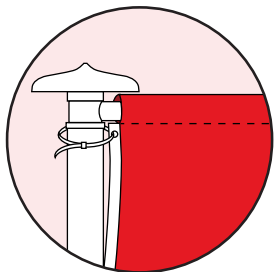
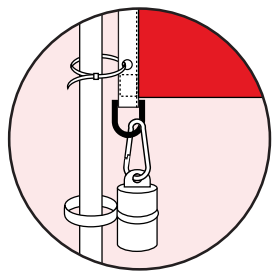

Fig 3a
Fig 3b.
3. Secure plastic ties through the eyelets and around the pole. DO NOT OVER-TIGHTEN (see fig 3a). At the bottom of the flag attach the D-ring to the metal clip on the weight. (see fig 3b)